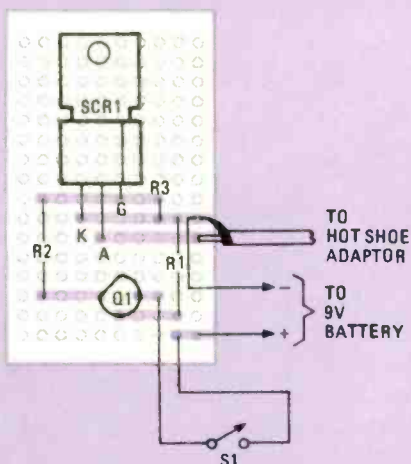
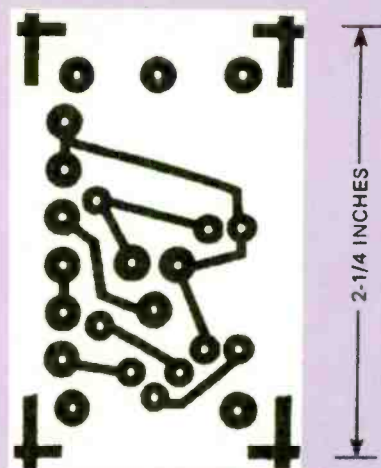

Fig. 2. Parts layout for the Veroboard version of the project.
Fig. 3. Here is the full-size template for the printed-circuit version of the project.
**Assembly.** We made up two versions of the Slave-Flash Trigger—one on a small printed-circuit board and the other on Veroboard—a pre-etched, pre-punched board that is quite handy. The Veroboard layout, shown in Fig. 2, can also be used by those readers who wish to use ordinary perforated construction board and point-to-point wiring. Figure 3 shows the template for the printed-circuit board, while the printed-circuit layout is shown in Fig. 4.